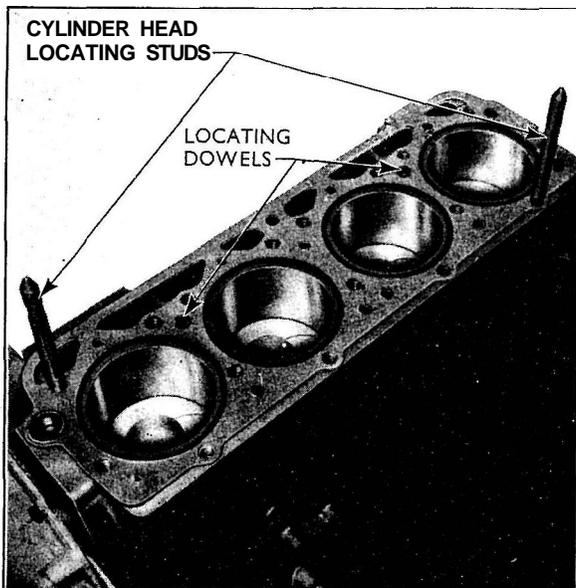

Fig. 46
46. Install cylinder head locating studs (Tool No. CT.6076) to diagonally opposite bolt holes at either end of the cylinder block (see Fig. 46) and fit a new rubber seal in the recess at the rocker shaft oil feed drilling in the cylinder block top face.